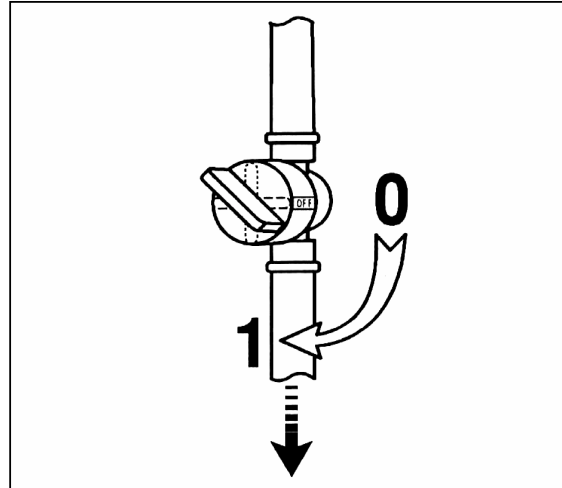

Fig. 14
1. Your tractor is equipped with a fuel valve. To open it the handle should point down as shown in Fig.14.